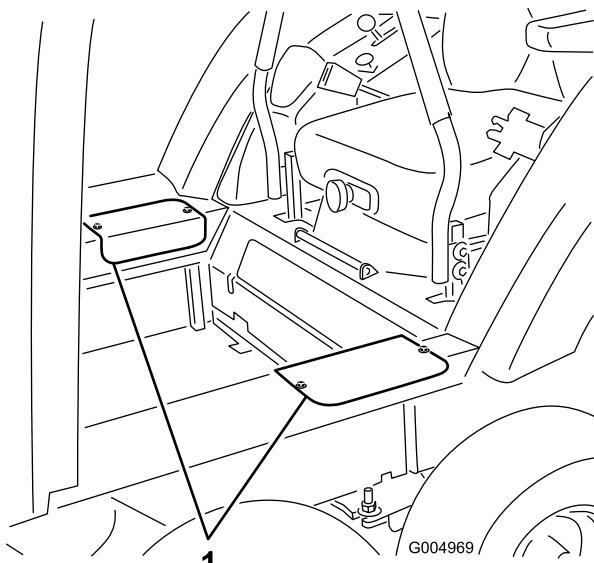

Figure 33
24. Install the side access covers with the screws previously removed (Figure 33).